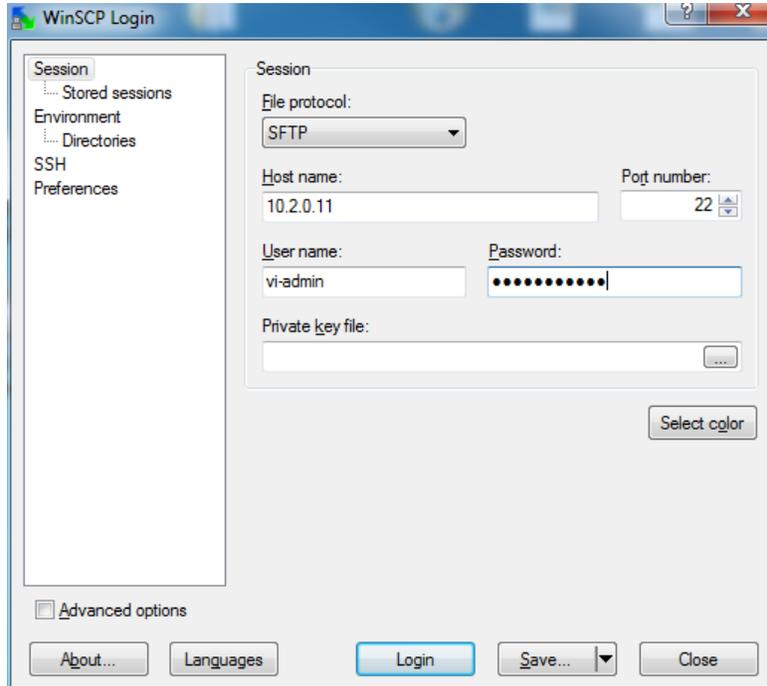

Figure 0-5 WinSCP Login Screen
- 11.1. Open WinSCP and select either SFTP or SCP for the file protocol, and enter the vMA IP address/**Host Name**, **User name**, and **Password**. (Example: **Host Name** - 10.2.0.11.) Then click the **Login** button. (See Figure 0-5)